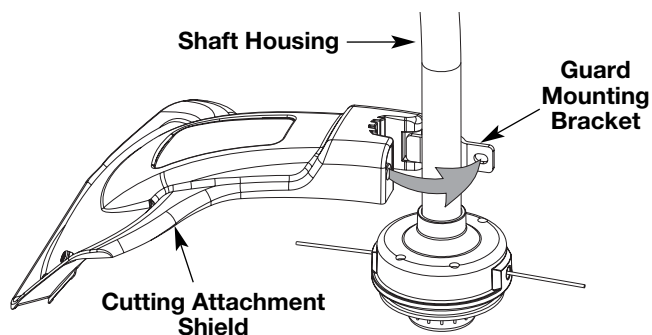

Fig. 2
1. Place the cutting attachment shield onto the shaft housing. Be sure the guard mounting bracket slides into the slot on the edge of the cutting shield. Rotate the shield into place, counterclockwise. The holes in the guard mounting bracket and cutting attachment shield will line up (Fig. 2).